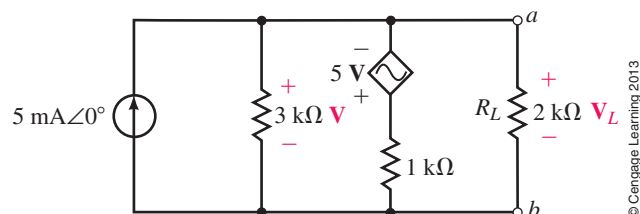

FIGURE 20-77
16. Find V_L in the circuit of Figure 20-77.
40. Find the Thévenin equivalent circuit external to the load impedance of Figure 20-77.